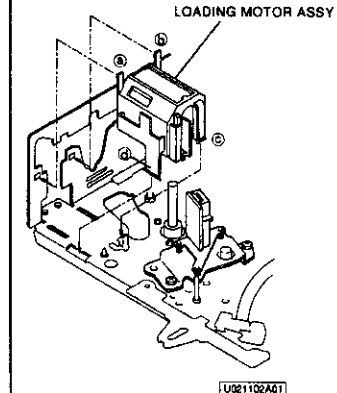

Fig. 2-11-2
- Unfasten the two catches (A) and (B) of the LOADING MOTOR ASSY shown in Fig. 2-11-2 and the two catches (c) and (d) of it shown in Fig. 2-11-2 to remove the LOADING MOTOR ASSY.
- Install the LOADING MOTOR ASSY shown in Fig. 2-11-2.